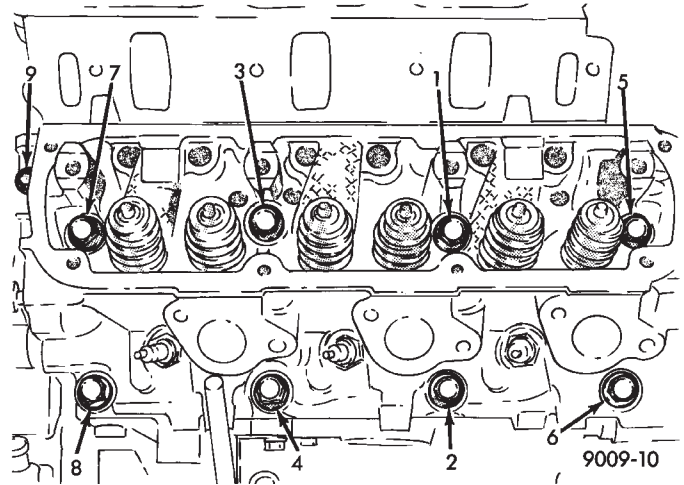
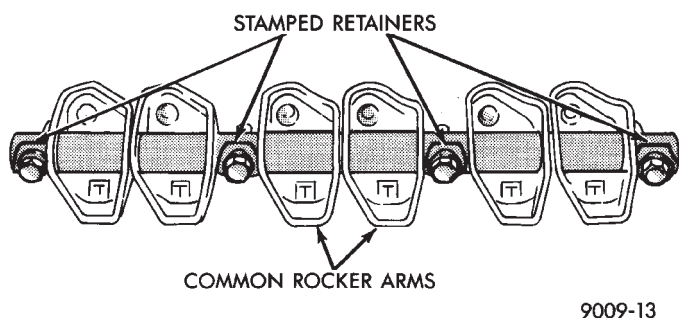

Fig. 11 Cylinder Head Tightening Sequence
Fig. 12 Rocker Arm Shaft Retainers
(3) Tighten the cylinder head bolts 1 thru 8 in the sequence shown in (Fig. 11). Using the 4 step torque turn method, tighten according to the following values:
(5) Tighten head bolt number 9 (Fig. 11) to 33 N•m (25 ft. lbs.) after head bolts 1 thru 8 have been tightened to specifications.
(6) Inspect push rods and replace worn or bent rods.
(7) Install push rods, rocker arm and shaft assemblies with the stamped steel retainers in the four positions, tighten to 28 N•m (250 in. lbs.) (Fig. 12).
(8) Place new cylinder head cover gaskets in position and install cylinder head covers. Tighten to 12 N•m (105 in. lbs.).